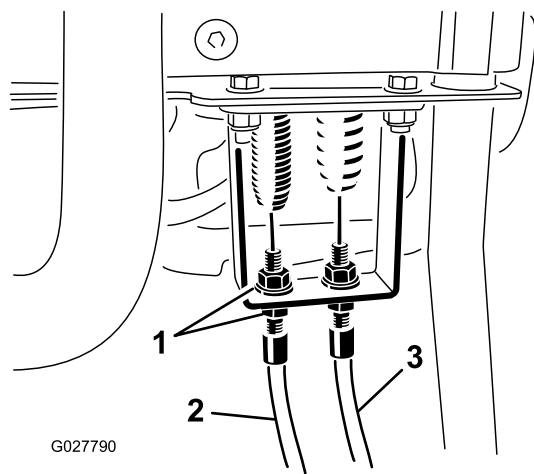

Figure 50
3. At the control handle bulkhead, loosen the reel-control cable until there is slack in the cable (Figure 50).